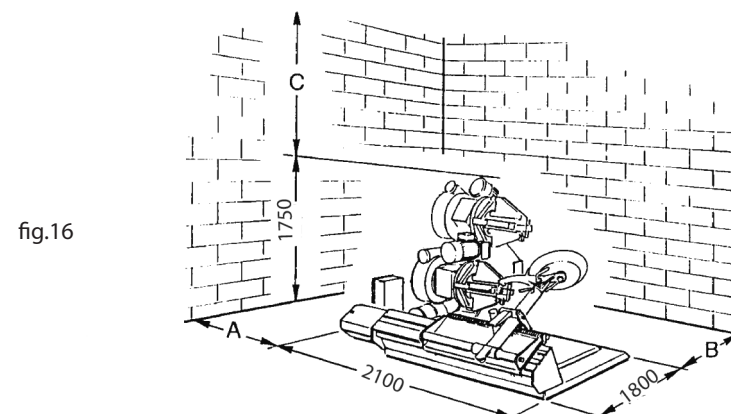

fig.16
COLLOCAMENTO (fig.16)
Ved. Fig. 16 dimensioni A - B - C
LOCATION (fig.16)
See Fig. 16 dimensions A - B - C
PLACEMENT (fig.16)
V. Fig. 16 dimensions A - B - C
AUFSTELLEN (Abb.16)
Siehe Abb. 16, Außenmaße A - B - C
COLOCACION (fig.16)
Véase Fig. 16 dimensiones A - B - C